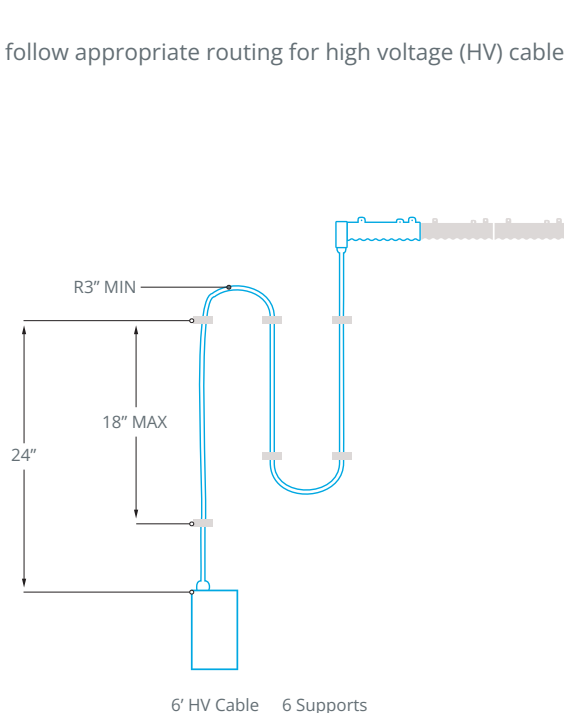

Figure 1.
Please follow appropriate routing for high voltage (HV) cables as indicated in figures 1 & 2 below: